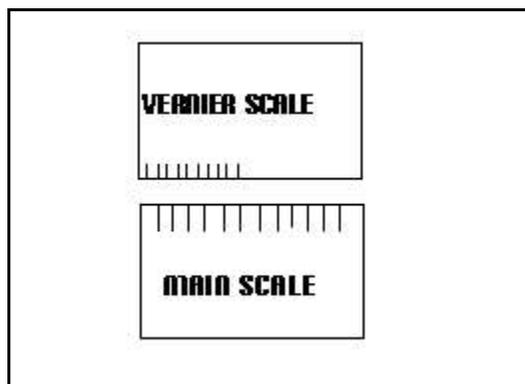

Figure 7: Your own personal vernier calculator. You should number your divisions as well.
2. Using your ruler and a sharp pencil, mark the **top** edge of one card once every centimeter starting from the left edge of the card all the way to the right side. The very left edge of this card will be the "zero". Every centimeter mark after the zero will be labelled 1, 2, 3, and so on. Write at the bottom of this card: "MAIN SCALE". Examine figure 7 for a rough idea of what you are to do.